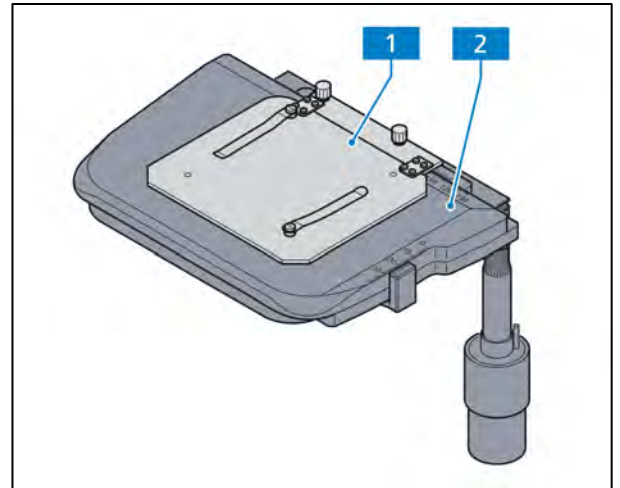

Fig. 2-14 Mechanical stage for reflected light 75x30 R with specimen-holding plate
- Mechanical stage (Fig. 2-14/2) for holding and positioning specimens with specimen holding plate (Fig. 2-14/1) with spring clips.